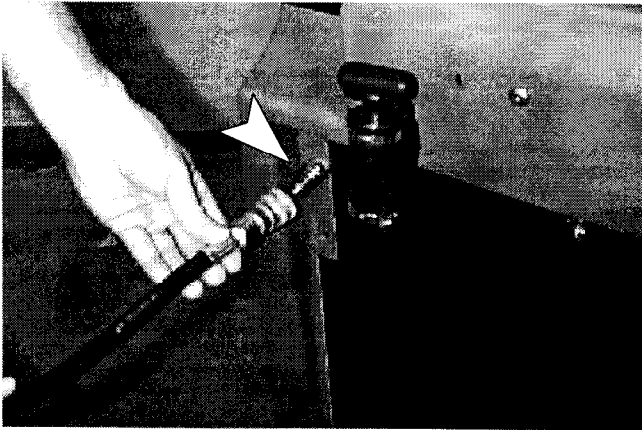

FIG. 17.
3. Connect solution hose to accessory coupler at left rear of machine. (Figure 17)